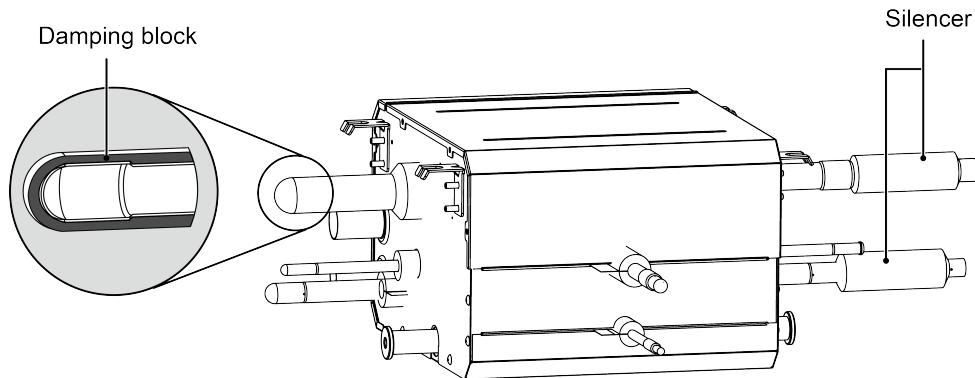

Fig.4.2.12
- 3) For one-to-one mode exchange box, low pressure gas pipe on the unconnected side should be wrapped by the damping block. See Fig.4.2.12.